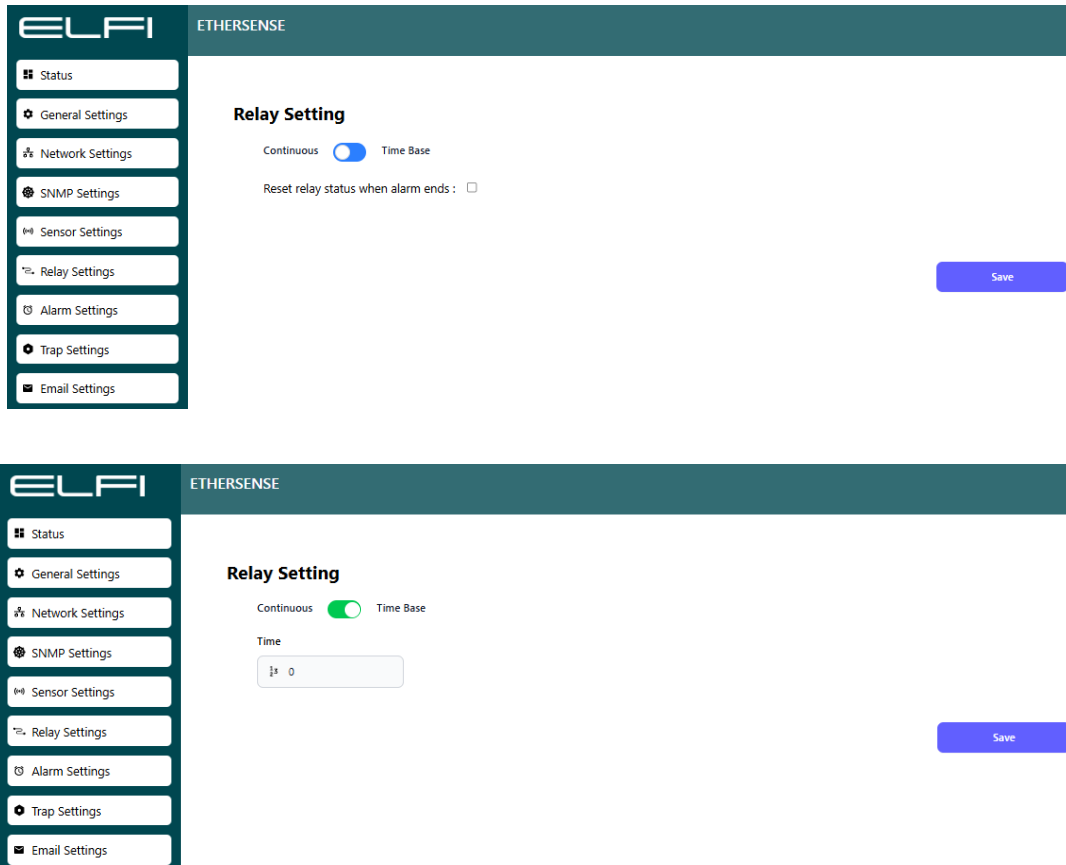

Figure 11: Sensor “Relay Settings” Menu
- **Continuous mode:** If Continuous mode is selected, once the relay is triggered, connected devices—such as alarms, cooling systems, etc.—will remain active until the Sensor exits the alarm state. Additionally, in Continuous mode, if the option “Reset relay status when alarm ends” is enabled, the relay will automatically return to its previous state when the alarm condition ends (e.g., the alarm will be turned off). (See Figure 11)